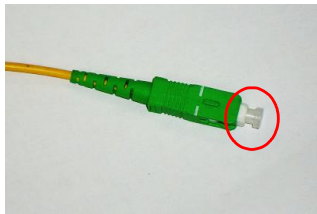

Figure 6-13 SC/APC Optic Connector Dust Cap
- When optic connector are not in use, the port should be covered with a protective dust cap. (Figure 6-13)